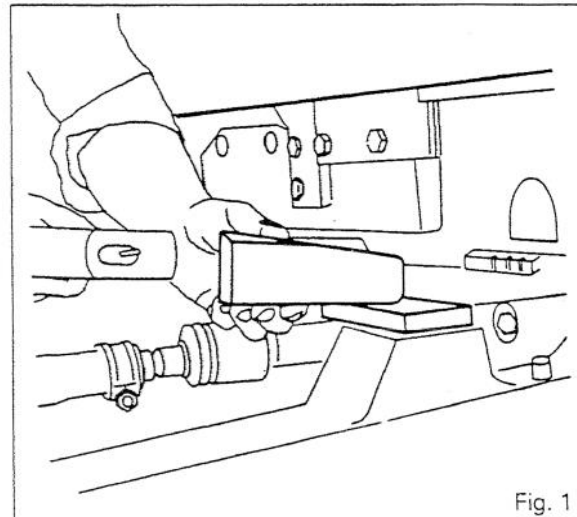

Fig. 1
- fit wedges between the frame and the front axle (Fig.1).